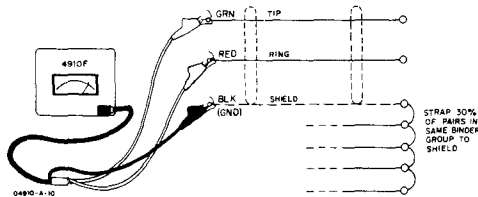

Fig. 6—Measuring Length
- (a) Determine pair to be measured. Identify 30 percent of the pairs in the same binder group and short these conductors to the shield at the *far end*. (Fig. 6).